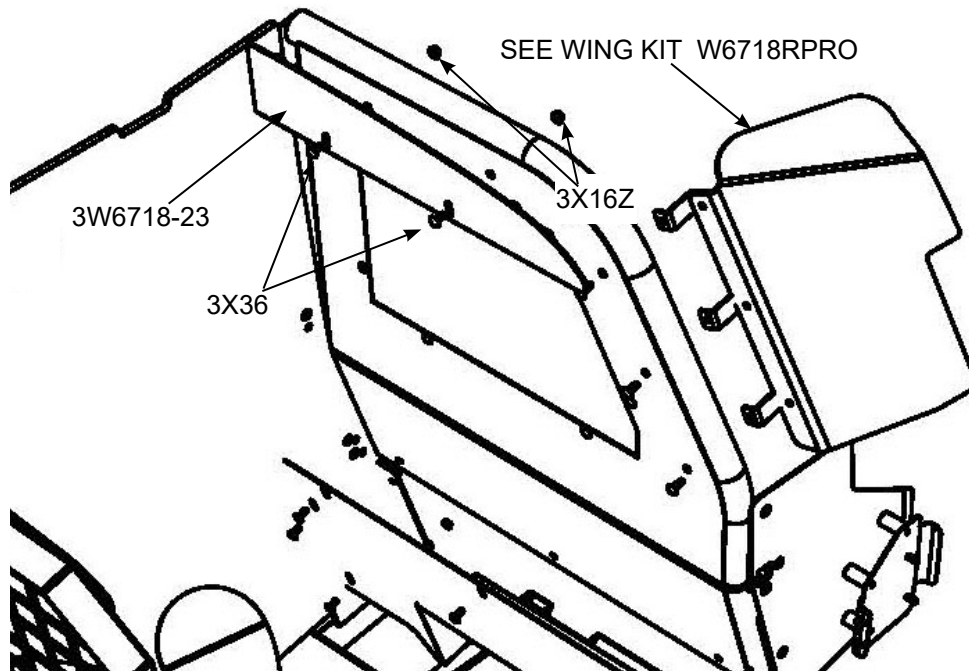

Fig. 10
- A. Locate partition filler wing (3W6718-23) against divider and ceiling, then mark hole locations. Drill 5/16" holes and fasten using bolts (3X36) and whiz nuts (3X16Z). (Fig. 10)
- A. Install per instructions found in kit (W6718RPRO) (Fig. 10)